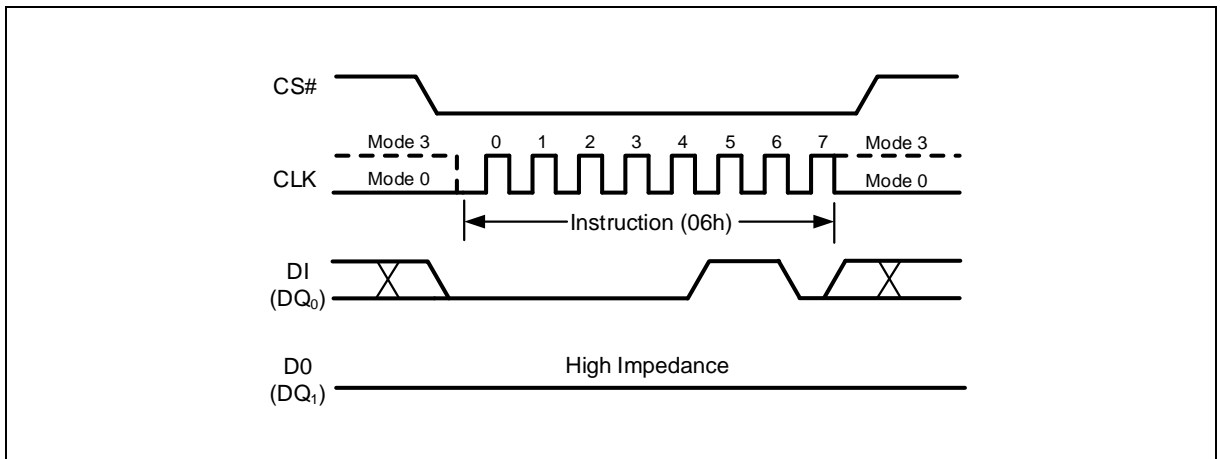

Figure 9 Write Enable Instruction for SPI Mode
Instructions vary in length from a single byte to several bytes and may be followed by address bytes, data bytes, dummy bytes (don't care), and in some cases, a combination. Instructions are completed with the rising edge of edge CS#. Clock relative timing diagrams for each instruction are included in Figure 9 through Figure 51. All read instructions can be completed after any clocked bit. However, all instructions that Write, Program or Erase must complete on a byte boundary (CS# driven high after a full 8-bits have been clocked) otherwise the instruction will be ignored. This feature further protects the device from inadvertent writes. Additionally, while the memory is being programmed or erased, or when the Status Register is being written, all instructions except for Read Status Register will be ignored until the program or erase cycle has completed.
The Write Enable (WREN) instruction (Figure 9) sets the Write Enable Latch (WEL) bit in the Status Register to a1. The WEL bit must be set prior to every Page Program, Quad Page Program, Sector Erase, Block Erase, Chip Erase, Write Status Register and Erase/Program Security Sectors instruction. The Write Enable (WREN) instruction is entered by driving CS# low, shifting the instruction code “06h” into the Data Input (DI) pin on the rising edge of CLK, and then driving CS# high.